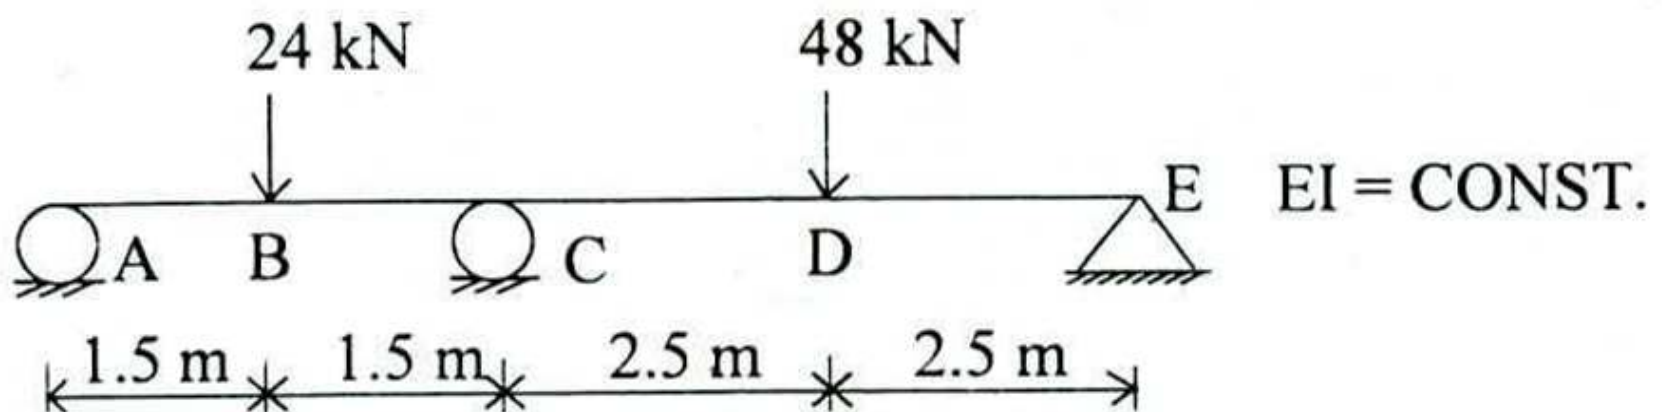

Fig. 5
4. (a) Analyze a 2 span beam shown in Fig. 5 using the method of consistent deformations and draw shear force and bending moment diagrams. Treat reaction at A as redundant. 20